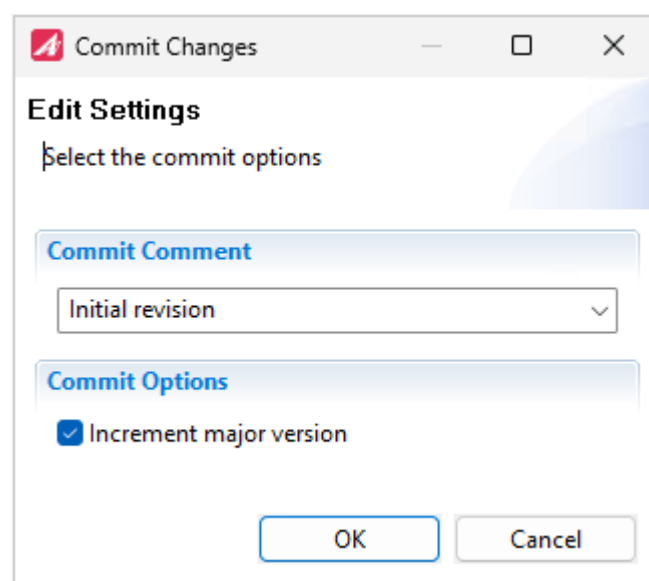

Figure 5.33: Comment for the initial revision of the commit
- Enter "Initial revision" as commit comment, make sure that "Increment major version" is ticked and click "OK" (see figure 5.33).